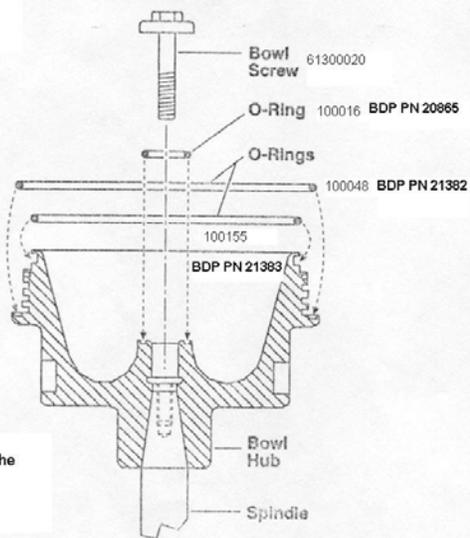

Figure 2
- 4.4 Screw the bowl hub bolt with its O-ring into the threads in the spindle. (See Attachment 1, Figure 2). Torque the bowl bolt to  $145 \pm (5)$  inch-lbs.
- 10.1.2 Figure 2 – Securing the Bowl Hub